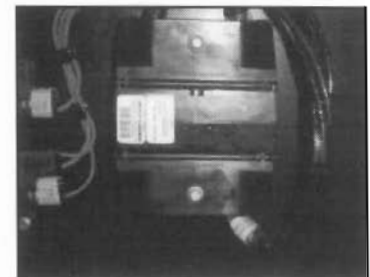

Figure 1
A. If the ABS braking module is present and is secured to the wall of the luggage compartment, no further work is required. See Figure 1.